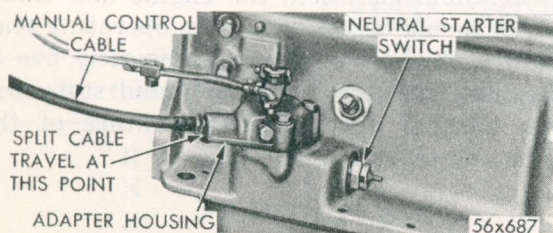

Fig. 39—Manual Control Cable Adjustment
- d. While holding manual lever in reverse position, adjust control cable for free play by pushing in until cable stops. Mark position on cable in relation to adapter housing. Withdraw control cable to stop and measure travel. Push control cable in adapter housing one half of total travel (Fig. 39). With cable in this position, tighten cable to transmission adjustable mounting bracket screw securely. Do not move cable when tightening bracket.
E. **Kickdown band adjustment**—The kickdown band adjustment screw is found on the left side of the transmission case (Fig. 39) Adjust to specifications.